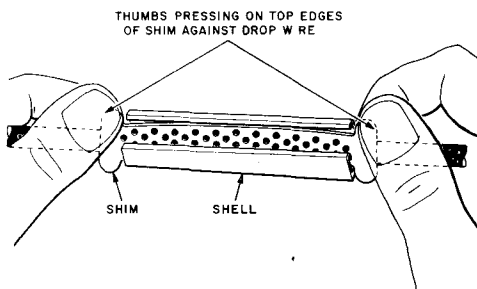

Fig. 3 — Snapping Shim into Position
2.03 Complete the insertion of the shim inside the shell over the wire as follows: Grip the wire at both ends of the shell with the thumbs resting on the top edges of the ends of the shim as indicated in Fig. 3. Press down on the shim with the thumbs until the shim snaps into position over the wire inside the shell.